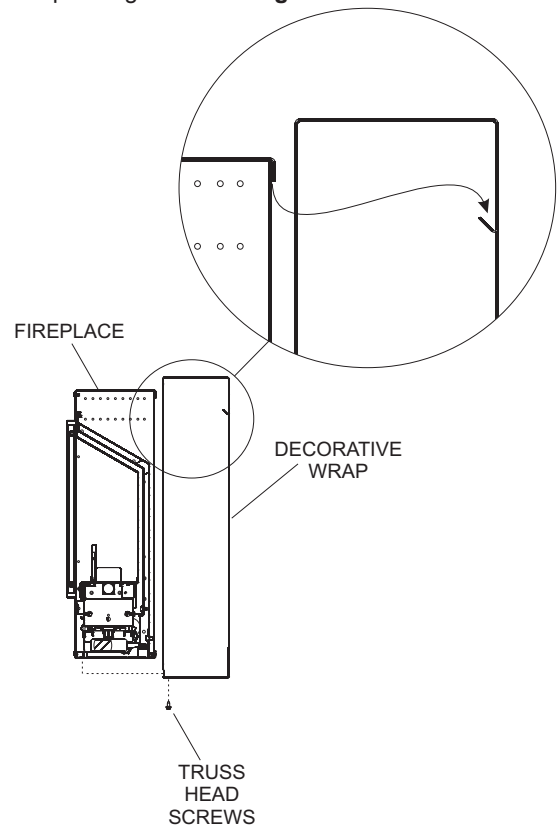

Figure 10
1. Lift fireplace and hook top lip onto wrapper hook. Let fireplace bottom swing into wrap. Carefully adjust any wiring that may get into the path of the fireplace through the corresponding hole. **See Figure 10.**